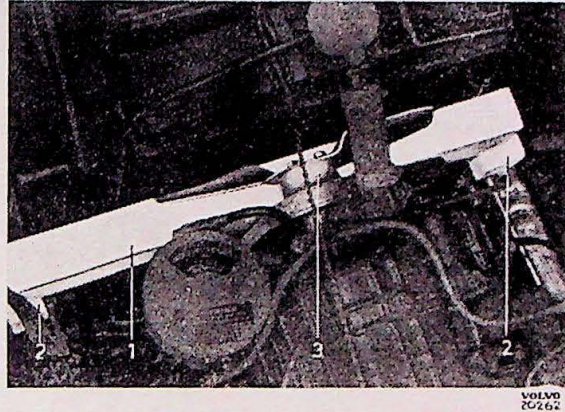

Fig. 6.
7. Screw off nuts at the front engine suspension. Remove the front engine guard plate. Place a wooden block (1 fig. 6) (62×6×6 cm) above the sills but below the fan hub (3). Insert the wooden block from below. Two extra blocks (2) (size 4×6×6 cm) should be placed between the wooden block mentioned above and the side members on the PV 445. A small overhead crane can of course also be used to support the engine.